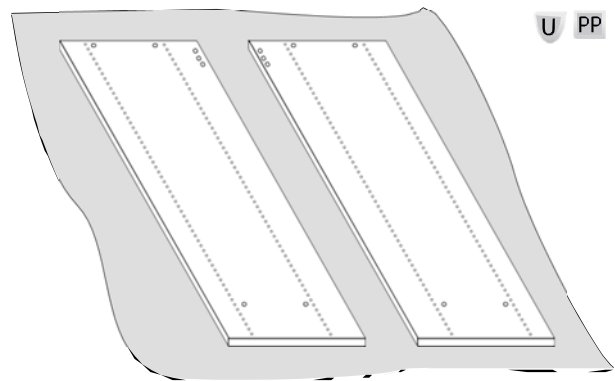

Fig. 1
1. Place one left and one right partition (from packs or floor mounted) on the floor with their insides facing up. (See Fig. 1 .)